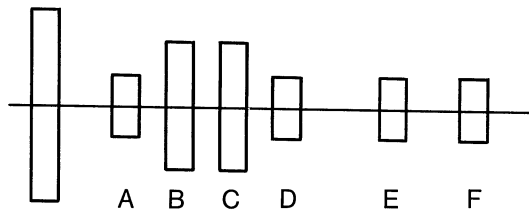

Figure 4-14. Azimuth Adjusting Waveform
- (1) Seek from track 00 toward track 40.
- (2) Check waveforms, A, B, C and D, as shown in Figure 4-14.